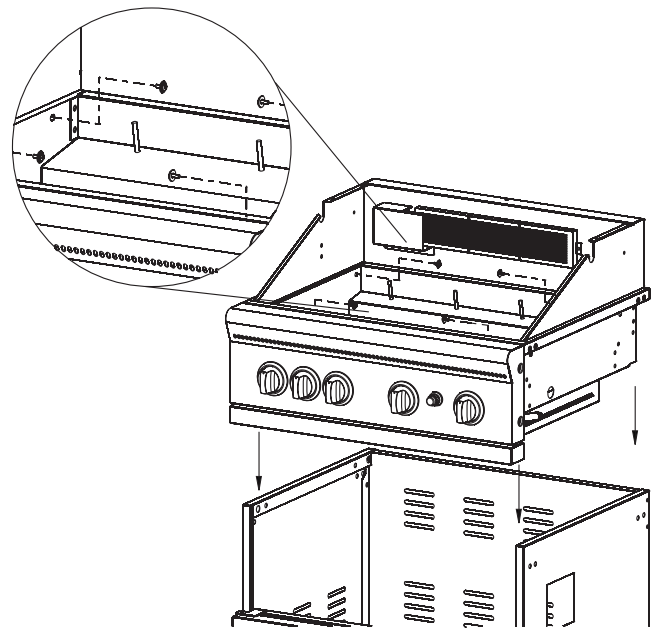

Figure 4
10. Place grill head onto cart. Attach grill head to cart from inside of the grill with four (4) lock washers, and 1/2" screws. **See Figure 4.**